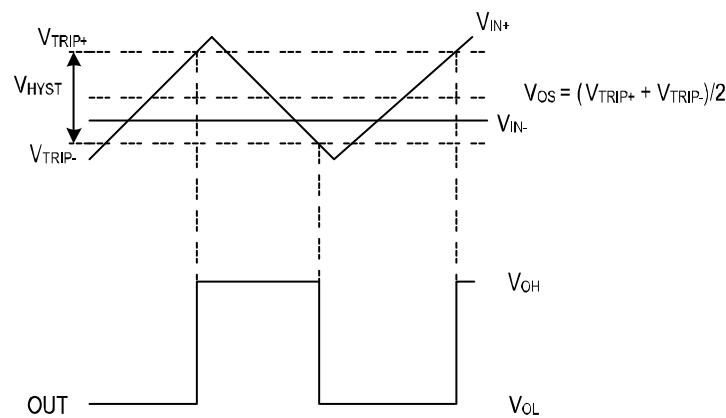

Figure 1. Hysteresis Band
**Note 3:** The hysteresis-related trip points are defined as the edges of the hysteresis band, measured with respect to the center of the band (i.e.,  $V_{OS}$ ) (Figure 1).
The hysteresis in a comparator creates two trip points: one for the upper threshold ( $V_{TRIP+}$ ) and one for the lower threshold ( $V_{TRIP-}$ ) for voltage transitions on the input signal (Figure 1). The difference between the trip points is the hysteresis band ( $V_{HYST}$ ). When the comparator's input voltages are equal, the hysteresis effectively causes one comparator input to move quickly past the other, thus taking the input out of the region where oscillation occurs. Figure 1 illustrates the case in which IN- has a fixed voltage applied, and IN+ is varied. If the inputs were reversed, the figure would be the same, except with an inverted output.